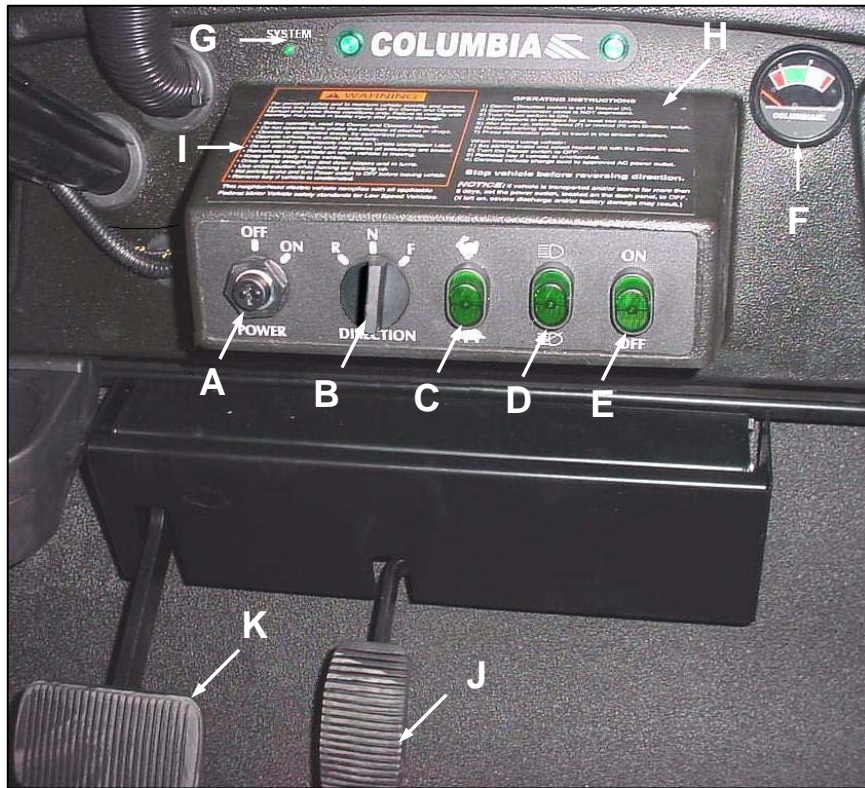

Figure 3.3.1
This section describes the operating controls of the vehicle. Figure 3.3.1 identifies many of these controls. Figure 3.3.1 is for a DC Drive vehicle.
3.3.1 POWER KEYSWITCH – Figure 3.3.1 Arrow A
3.3.2 DIRECTION SELECTOR – Figure 3.3.1 Arrow B
3.3.3 HIGH/LOW SPEED SWITCH – Figure 3.3.1 Arrow C
3.3.4 LIGHT SWITCH – Figure 3.3.1 Arrow D
3.3.5 WINDSHIELD WIPER – Figure 3.3.1 Arrow E
3.3.6 BATTERY STATE OF CHARGE METER – Figure 3.3.1 Arrow F
3.3.7 SYSTEM STATUS LIGHT – Figure 3.3.1 Arrow G
3.3.8 OPERATING INSTRUCTION - Figure 3.3.1 Arrow H
3.3.9 WARNING LABEL - Figure 3.3.1 Arrow I